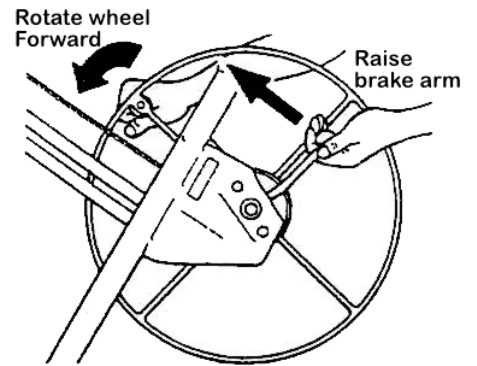

Figure 2
- a. Hold the winch wheel and brake arm as shown in Figure 2. Rotate the winch wheel forward slightly while you lift on the brake arm to release the brake.